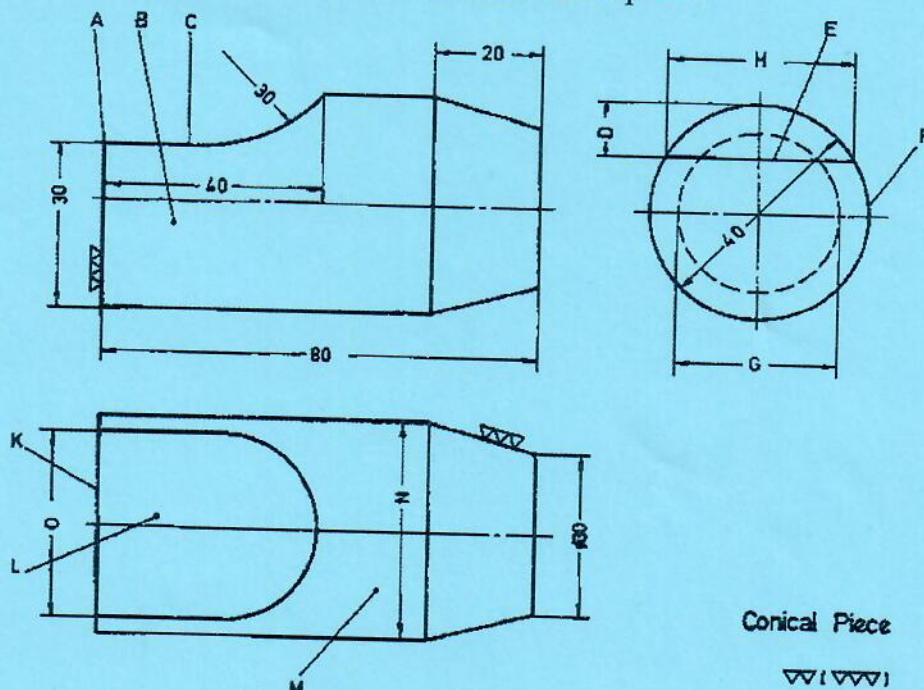

Figure 4 A conical piece for a machine vice.
- d) Figure 4 shows a conical piece used in a machine vice. Write the correct answer that would fit in the blank space.